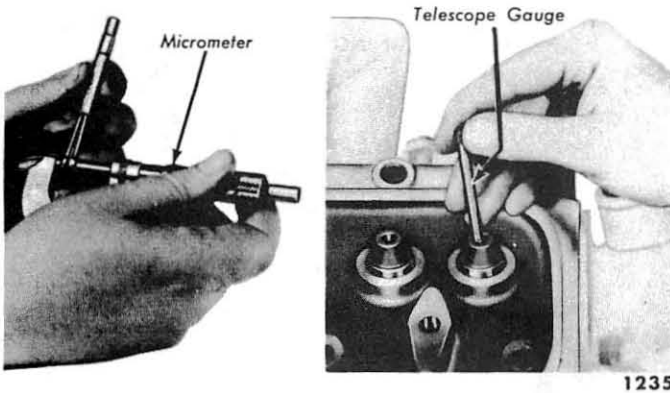

Fig. 14—Measuring Valve Guide
(2) **VALVE GUIDE INSPECTION AND REPAIR.** Measure the valve guide diameter (fig. 14) and the valve stem diameter. If the clearance is more than 0.004 inch for the intake or more than 0.005 inch for the exhaust valves, ream out the guide and install the next oversize valve. Use the piloted reaming tool shown in fig. 15. Be sure to clean out all chips and metal particles. Regrind the valve seats when the guides are reamed.